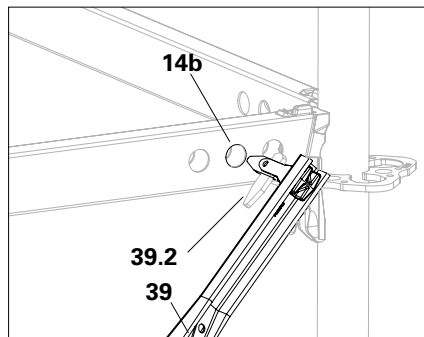

Fig. A5.02c
3. Straighten the tilt finger (**39.2**). (Fig. A5.02c)